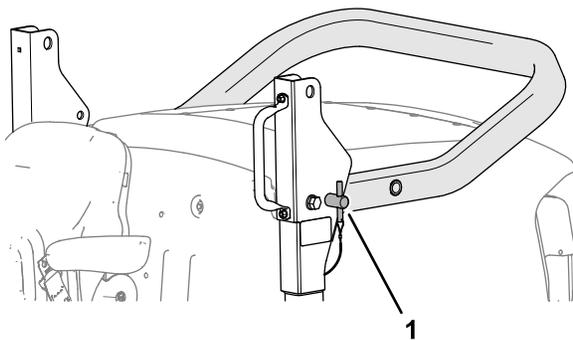

Figure 27
5. Insert the roll-bar pins in the lower holes of the pivot brackets (Figure 27).